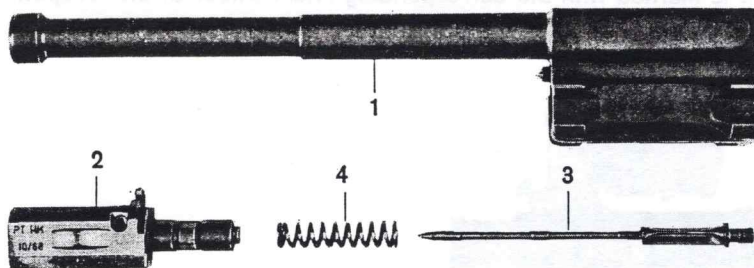

Fig. 31: Plastic training breech block
(2) **Plastic training breech block (Fig. 31)**